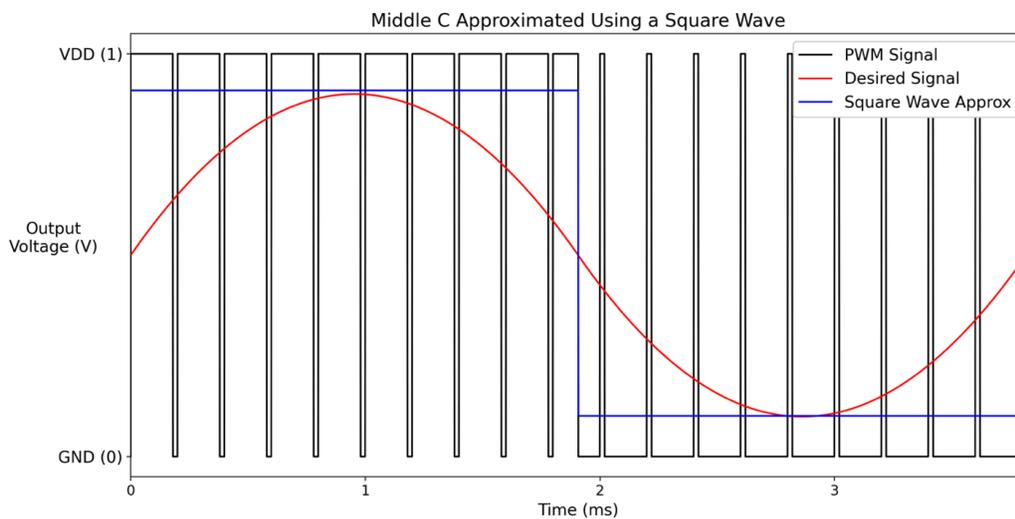

Figure 1: PWM Signal approximating a Sinusoidal Output Voltage
Where V_{DD} is the maximum FPGA output voltage, 3.3V for the Nexys A7. Figure 1 shows an example of a sinusoidal signal and its approximation using a square wave, generated by a PWM signal. Note how the signal peaks during the high duty cycles, where the signal is high (1) for most of the time, and is lowest during the lowest duty cycles, where the signal is low (0) for most of the time.
A direct application of a clock divider is generating a square wave. A square wave is a basic approximation for a sine wave that alternates between two values, high and low. By modifying the clock divider skeleton above, a multibit value can be toggled when the counter threshold is reached, driving the duty cycle of the wave at a slower frequency than the system clock. Figure 1 shows an example of approximating a sine wave using a square wave.